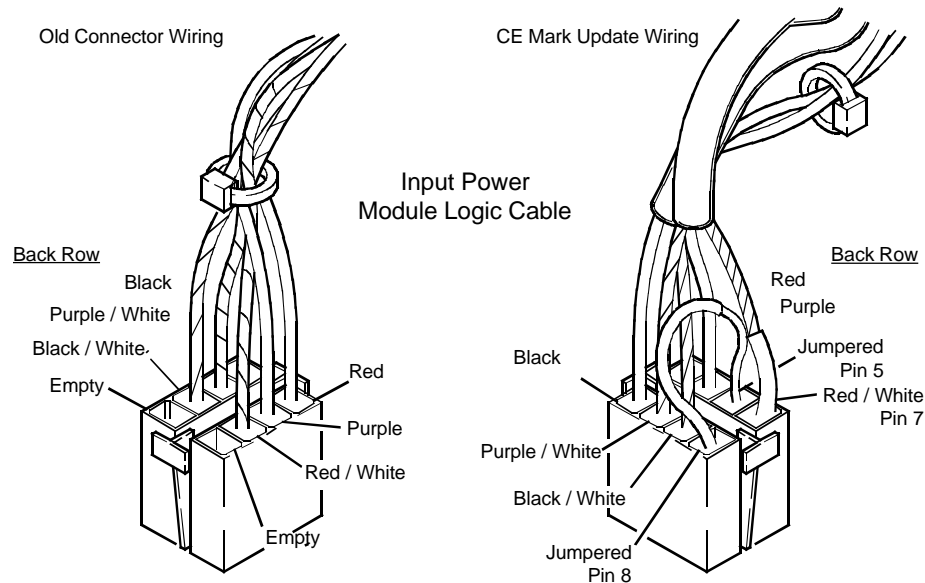

Figure 2
- b) Referencing Figures 2 and 3, use the pin extraction tool to extract the red/white wire currently located in the pin 5 location. *For best results, push the pin extractor tool into the pin 5 location, rotate the body of the tool approximately 45 degrees, then push in on the plunger.*
- c) Re-insert the red/white wire into the pin 7 location of the 8-pin female connector, as shown in **Figure 2**.